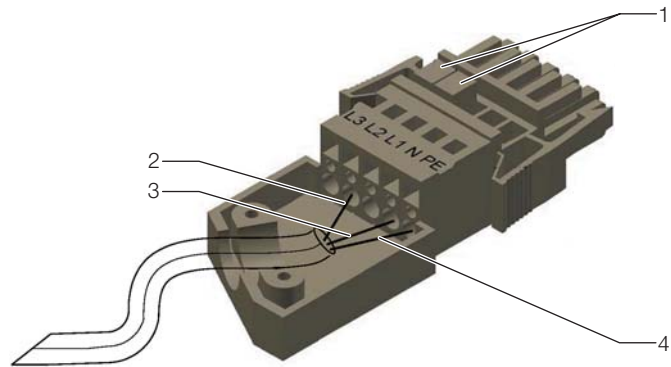

Fig. 34: Schematic diagram of the connection plug with strain relief housing
- Bypass the phase connections on the connection plug using the two included bridges (Fig. 34, item 1). Place one bridge between phase conductors L1 and L2 and one bridge between phase conductors L2 and L3.